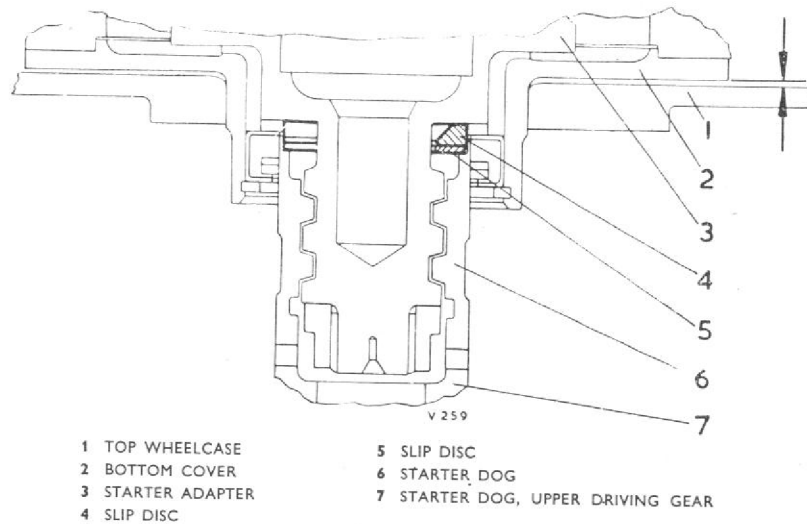

Fig. 9. Checking the gap between the starter adapter and the top wheelcase
- (1) Remove the eight screws and the bottom cover from the starter adapter.
- (2) Run out the starter dog to the fully engaged position and insert a disc(s), selected from the range of slip discs T76183 to T76196, behind the dog so that the dog is held in the fully engaged position.
- (3) Secure the bottom cover to the starter adapter with the eight screws.
- (4) Assemble the starter adapter to the top wheelcase so that the starter dog bottoms on the dog in the air-intake.
- (5) Hold the adapter in the down position and, using feeler gauges, measure the gap between the cover face of the adapter and the top wheelcase (fig. 9). Ascertain the end float of the planet gear carrier recorded on the relevant work sheet and add this to the measured gap. Refer to the Table of Fits and Clearances in Chapter 38 and add to this total but in two separate summations—(A). The minimum permissible axial clearance between the starter dog teeth, and (B) the maximum permissible axial clearance between the starter dog teeth. The thickness of the adjusting washer must lie between these two totals.
- (6) Check the thickness of the adjusting shim and correct if necessary.
- (7) Remove the starter adapter from the top wheelcase.
- (8) Remove the bottom cover from the starter adapter and take out the slip disc(s).
- * (9) Place the bottom cover, flange downwards, on press block T75300.